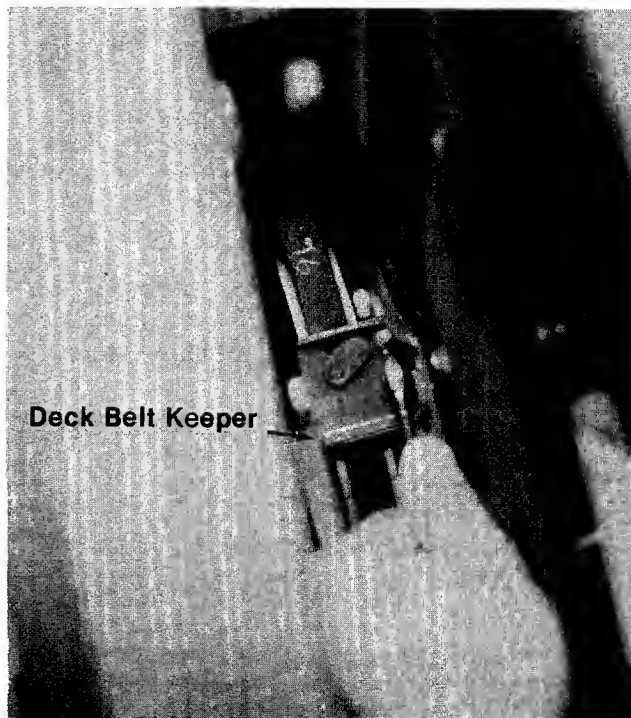

FIGURE 19. REMOVAL OF DECK BELT KEEPERS
3. Remove two belt keepers at the deck pulley and shoulder bolt. See figures 19 and 20.